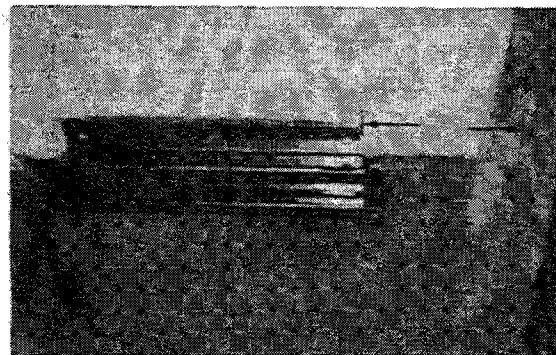

Figure 4
11. Measure from trunk sill panel to rear edge of CD changer bracket. Punch and drill three 3 mm holes. Remove metal shavings and apply zinc dust paint (Fig. 4).